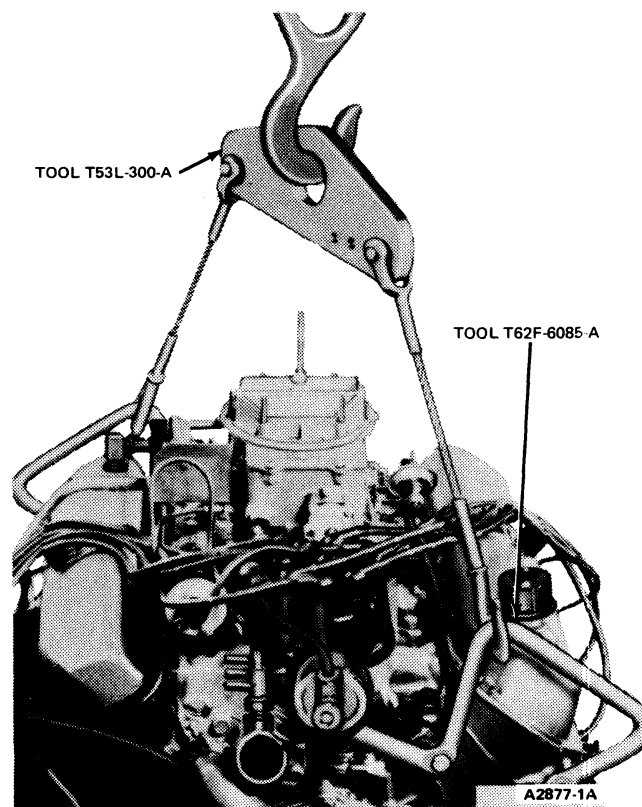

FIG. 7 Typical Engine Lifting Brackets and Sling
16. Lower the vehicle, and then support the transmission. Install the engine lifting brackets on the front of the left cylinder head, and install the engine right lifting bracket at the rear of the right cylinder head. Then attach the engine lifting sling (Fig. 7).
1. Attach the engine lifting brackets and sling (Fig. 7). Remove the engine from the workstand.
18. If so equipped, disconnect the A/C compressor magnetic clutch load wire (refer to Group 36). Install the lifting bracket (Fig. 7) to the intake manifold (attaching bolts). Remove two converter housing-to-cylinder block upper bolts.
19. Position a floor jack under the transmission for support. Position a floor crane to the vehicle and connect it to the lifting bracket which is attached to the intake manifold and carefully move engine forward in the engine compartment so that no components are damaged. Install the engine on a work stand (Fig. 7).